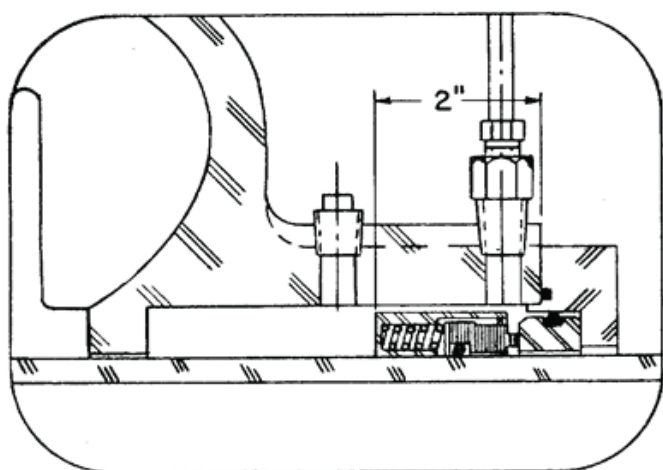

Fig. 11 — Mechanical Seal Locating Dimension
7. Apply a light coat of oil to the seal faces and shaft sleeve and slide the seal head assembly (3-402-0) over the sleeve. If the seal is a John Crane Type 8, set it to dimensions shown in Figure 11 and tighten the setscrews. Next install O-rings (3-914-2) onto the one piece glands (3-014-2) and install the glands on the shaft.